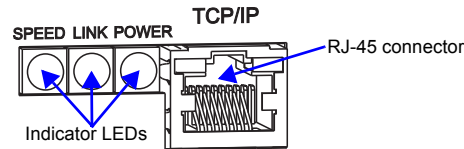

FIG. 3 RJ-45 connector and indicator LEDs
- Check the Link indicator LED on the APWeb Module (see FIG. 3 on previous page). If the indicator is not illuminated, check the cable type.